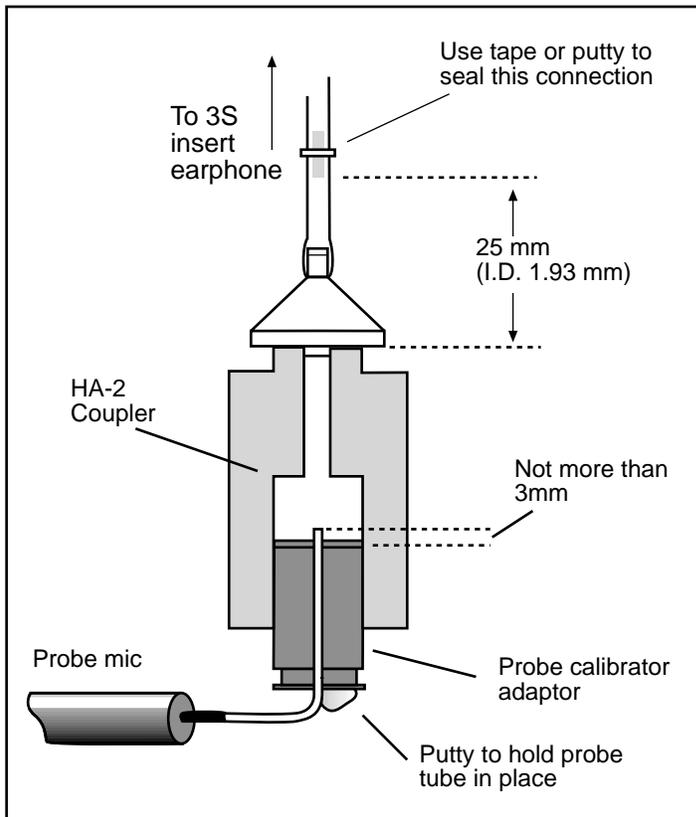

Figure 4.3C
5. Connect the insert earphone's tubing to the coupler's tubing. The insert earphone tubing has a notch on the end; it should just slip right into the coupler tubing. See Figure 4.3C for a picture of the complete coupler setup.